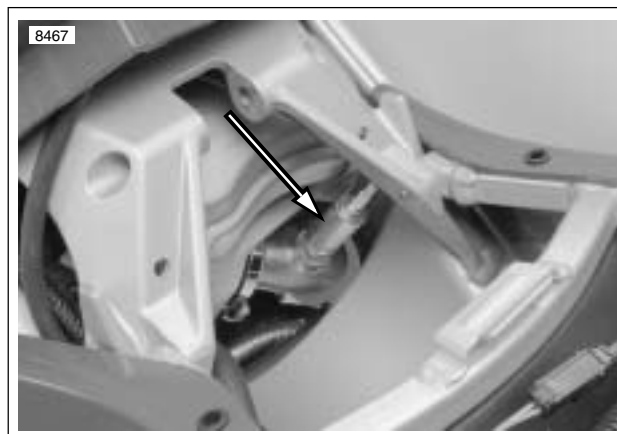

Figure 4-74. Installed Oxygen Sensor (shock absorber removed)
See Figure 4-74. The oxygen sensor (O2 Sensor), located in the rear header pipe, monitors oxygen content in the exhaust gas and converts it to a voltage reading. This voltage reading is used by the ECM to maintain the proper air/fuel ratio during closed loop operation.
2. See Figure 4-74. Thread sensor into exhaust header. Tighten sensor to 40-45 ft-lbs (54-61 Nm).